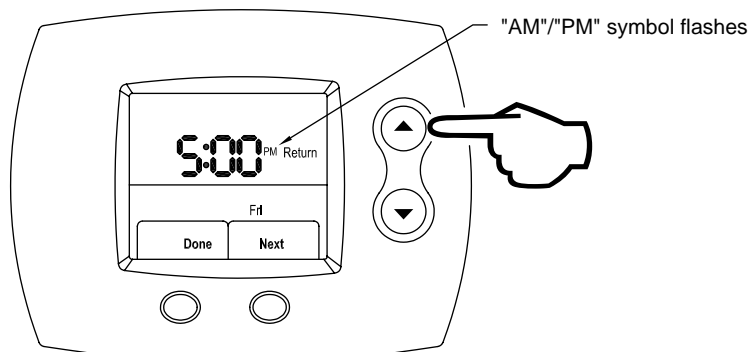

Figure 135
Step 18: Next, using the **UP** (index AM / PM) or **DOWN** (index AM / PM) buttons, select AM / PM, as shown in Figure 135.